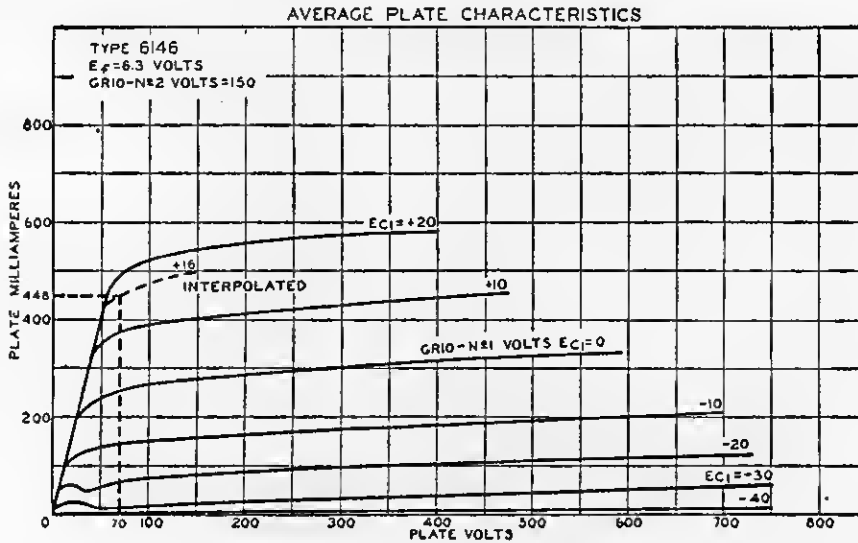

Fig. 44
(3) From the plate family for the 6146 given in Fig. 44 ( $E_{c2}=150$  volts), a suitable value for effective minimum plate voltage ( $e_{bmin}$ ) to the right of the "knee" is 70 volts. The corresponding peak positive grid-No.1 voltage ( $e_{c1max}$ , determined from  $E_{c1}$  curves) for a peak plate current of 448 milliamperes is approximately +16 volts.
(4) From Table I,  $K_2$  for a conduction angle of 140 degrees is 0.862. Therefore, power output ( $P_o$ ) = 0.862  $\times$  (600-70)  $\times$  0.112 = 51 watts.
(5) Plate dissipation ( $P_p$ ) = (600  $\times$  0.112) - 51 = 16.2 watts. This value is well within the maximum plate-dissipation rating of the 6146 for class C telegraphy under CCS conditions (20 watts).
(6) The dc grid-No.1 or bias voltage ( $E_{c1}$ ) and peak rf grid-No.1 voltage ( $E_{g1}$ ) are calculated next. (Note that bias voltage  $E_{c1}$  is not the  $E_{c1}$  shown in the characteristics curves, which represents total grid voltage, i.e., the algebraic sum of the bias  $E_{c1}$  and peak rf grid-No.1 voltage  $e_{c1max}$ ). From table I,  $K_3$  and  $K_4$  for a conduction angle of 140 degrees are, respectively, 0.520 and 1.520. From the technical data for the 6146, mu-factor ( $\mu_{g2g1}$ ) is 4.5. Therefore,